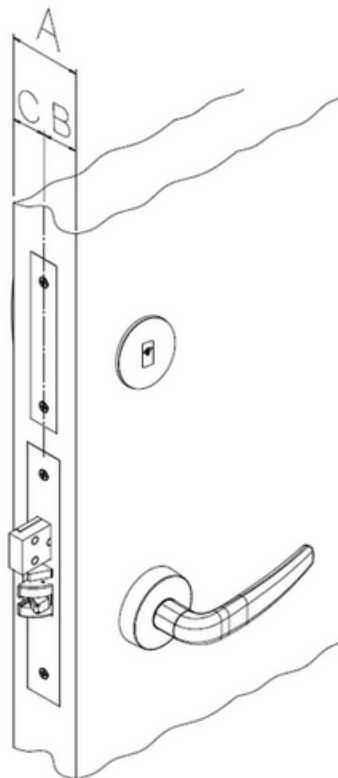
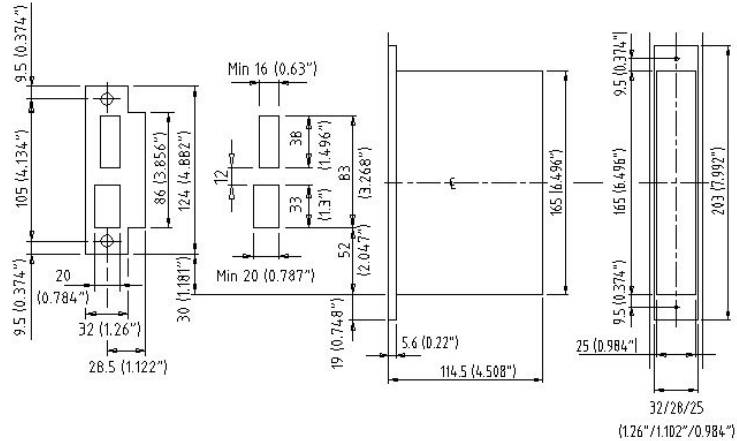

Figure 2: A-, B- and C-dimensions
Figure 7: Positioning of ANSI (DA) standard striker plate.
Figure 7 above shows the lock case center line (CL); see dot and dash line through the figure above. The CL is important for the positioning of the lock case, striker plate and escutcheon onto the doors.
The striker plate is positioned in the frame so that the bottom of the striker plate is 30 mm (1.18'') above the bottom of the lock case; see Figure 7. Horizontally, the B- or C-dimension (see Figure 2) will apply depending on the direction of the door and the center/rebate orientation.